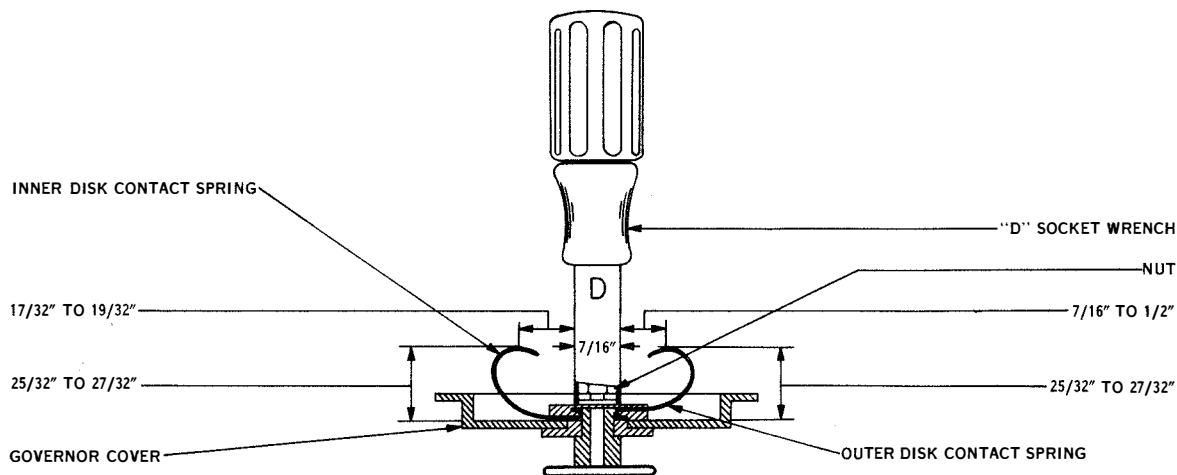

Figure 7-13. Inner and Outer Disk Contact Springs
(7) INNER AND OUTER DISK CONTACT SPRINGS. (See figure 7-13.)—The distance from the inner surface of the governor cover to the highest point of the contact springs should be $25/32$ inch to $27/32$ inch. Measure the height of the springs. To adjust, bend the contact springs.